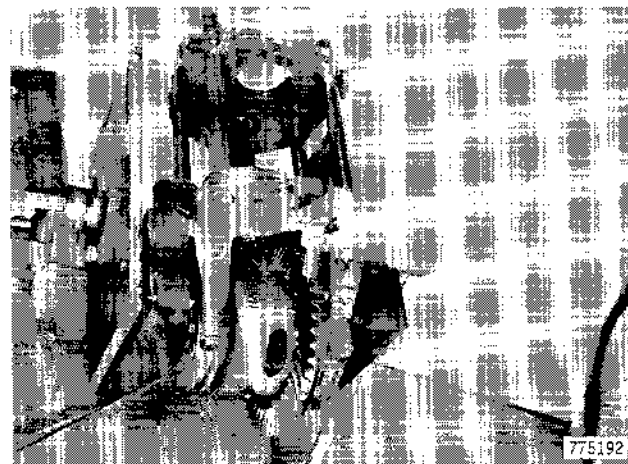

Figure 210
60. Apply oiled red lead or equivalent marking paste to several teeth of ring gear, Figure 210.